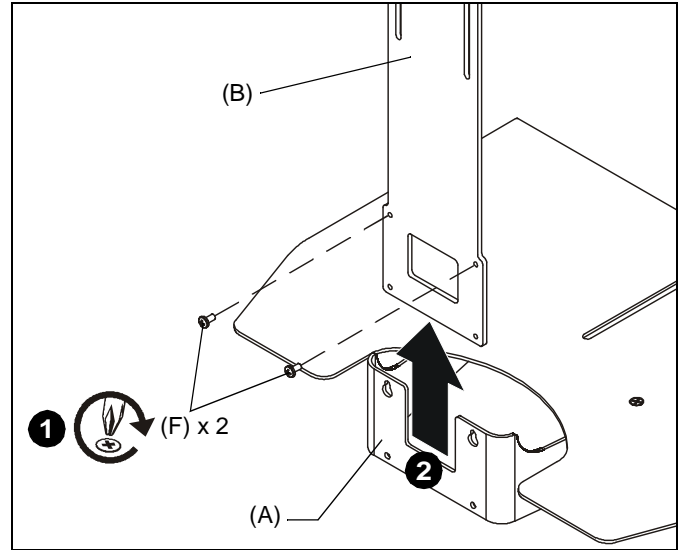

Figure 3
1. Partially install two 10-24 x 3/8" Phillips pan head screws (F) into the top two holes on shelf upright (B). (See Figure 3)
2. Raise shelf assembly (A) up to hang it on two screws inserted in Step 1. (See Figure 3)